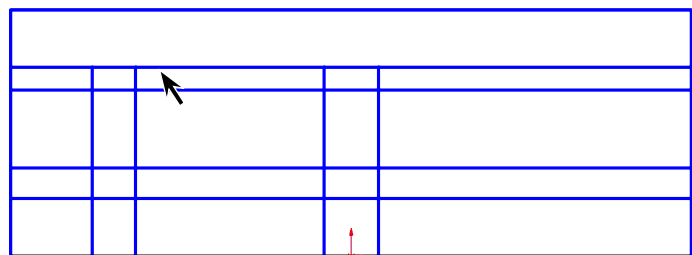

Fig. 5
Step 9. Sketch **4 vertical lines from second line from top line to bottom line**, **Fig. 5**.